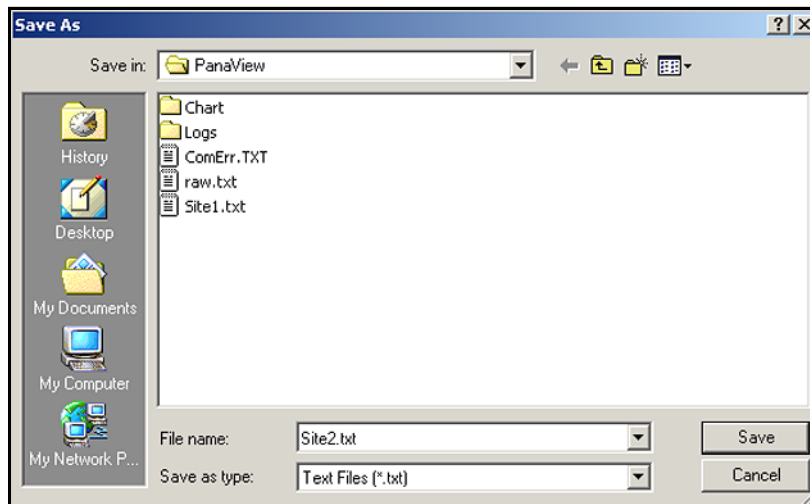

Figure 29: Save As Screen
To *save* the raw signal, click *Save* to open a screen similar to *Figure 29* below. Enter the desired name, and click *Save* to save the signal as a text file.
2. Click *Save Site to PC* to open a screen similar to *Figure 29 on page 112*.